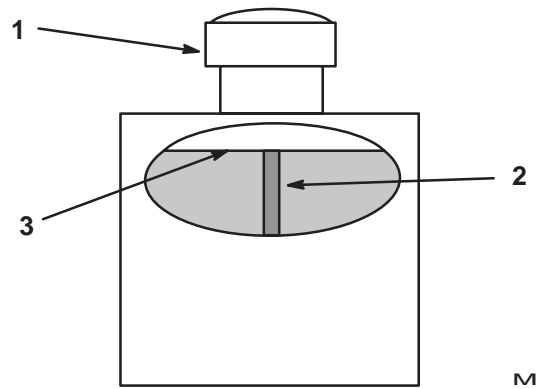

Figure 32
2. Clean area around filler neck of hydraulic tank (Fig. 32).
3. Remove cap from filler neck. Look inside to check if there is fluid in the reservoir. (Fig. 32).
Note: Fluid level should be to the top of the baffle when fluid is warm (Fig. 32).